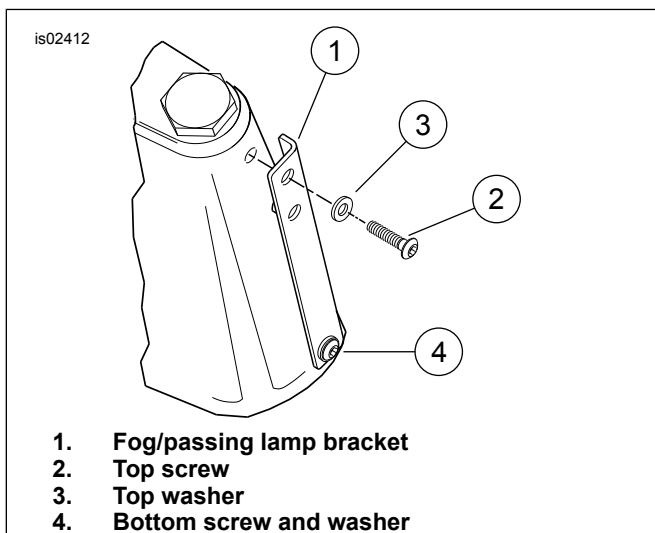

**Figure 2. Front Panel Trim Strip and Windshield Dock Installation (Models Without Passing Lamps)**
2. See Figure 2. Select a mushroom head chrome screw (2) from the kit. Place a flat washer (3) over the screw threads, followed by a bushing (4). Place one of the thicker upper spacers (5) over the threads with the cutdown end away from the screw head.
3. Insert the threaded end of the screw into the upper hole in the front panel trim strip (1), and then into the upper hole in the front and back panels. Tighten screws finger tight.